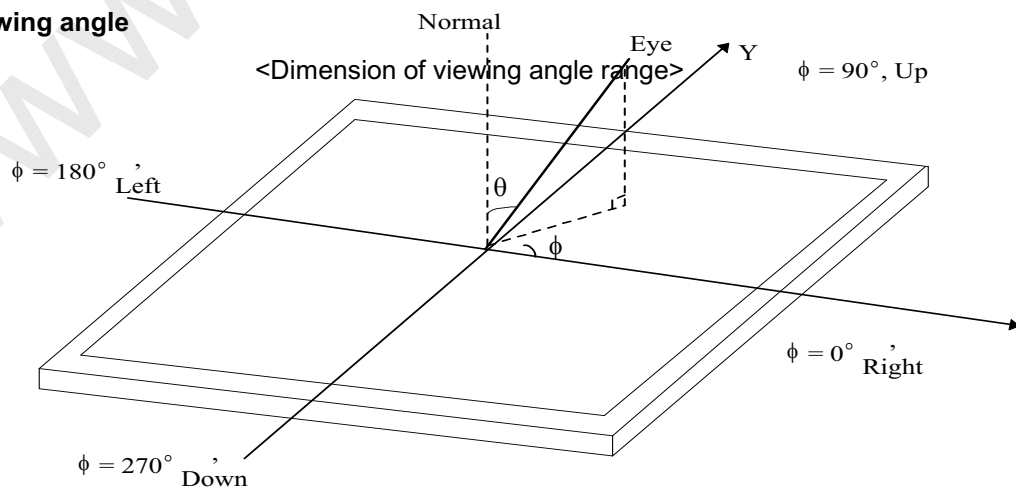

**FIG. 3 Response Time**
| Response time                                       | $Tr_R + Tr_D$ | -   | -        | 16       | 25    | ms                | Fig 3 |
2. Response time is the time required for the display to transition from white to black (rise time,  $T_{R}$ ) and from black to white(Decay Time,  $T_{D}$ ). For additional information see FIG 3.